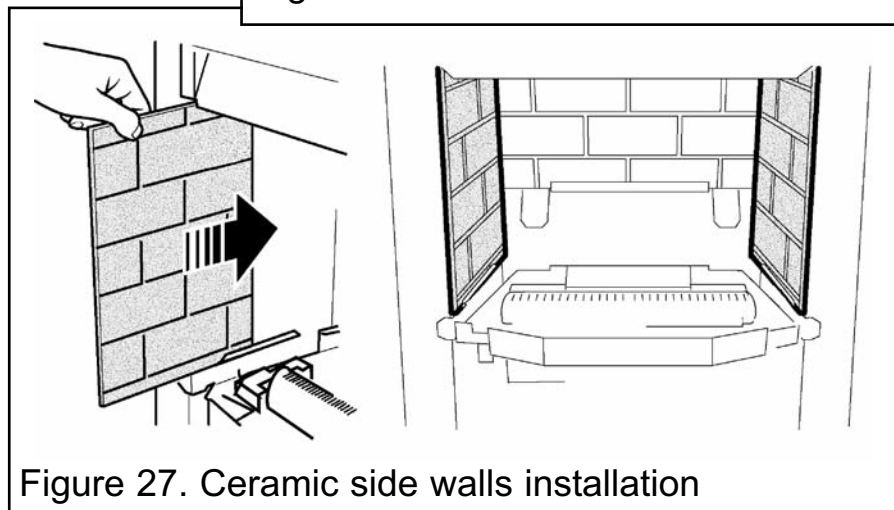

Figure 27. Ceramic side walls installation
2. Fit the ceramic side walls against the side faces of the burner compartment. The bottom edges of the walls should rest in the ledges at the sides of the firebox. Slide them in from the front and ensure that they touch the rear wall. Be careful not to damage the edges of the side walls (See figure 27).